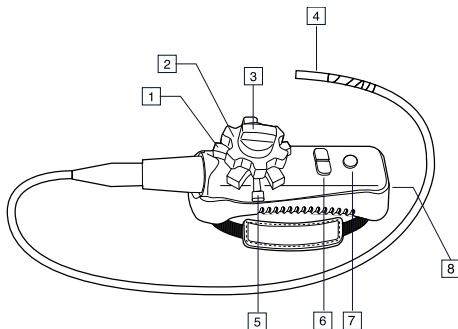
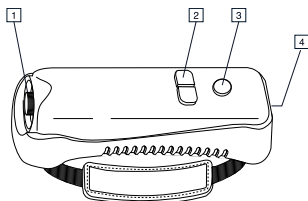

Figure 4.4 Articulating probe
Figure 4.5 Wireless transmitter
1. In wireless mode, use the light intensity buttons on the articulating probe (see Figure 4.4 *Articulating probe*, page 10) or wireless transmitter (see Figure 4.5 *Wireless transmitter*, page 11) to increase/decrease the light intensity.
Turn the articulation knobs to adjust the camera tip. The tension of an articulation knob is adjusted by turning the corresponding tension knob. Refer to Figure 4.4 *Articulating probe*, page 10.
Do not operate the articulation knobs (see Figure 4.4 *Articulating probe*, page 10) with the probe in a coiled configuration. This will damage the articulation controls.